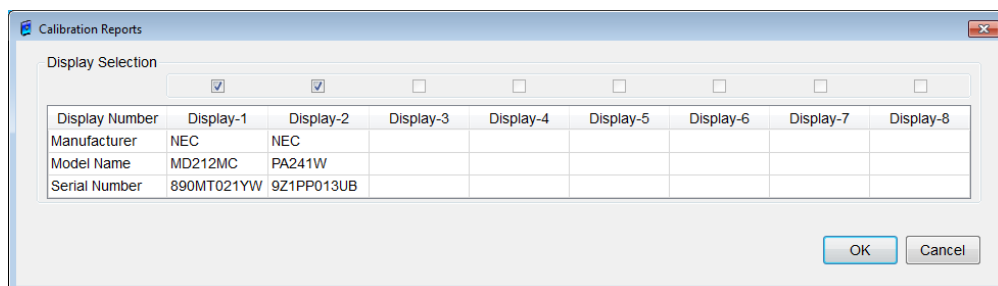

Figure 34: Calibration Reports Display Selection dialog box
Click **Calibration Reports** in **Display Overview** to display the **Calibration Reports Display Selection** dialog box, as shown in **Figure 34**.
- OK** button Show the **Calibration Report** dialog box for the display selected, see **Figure 34**.